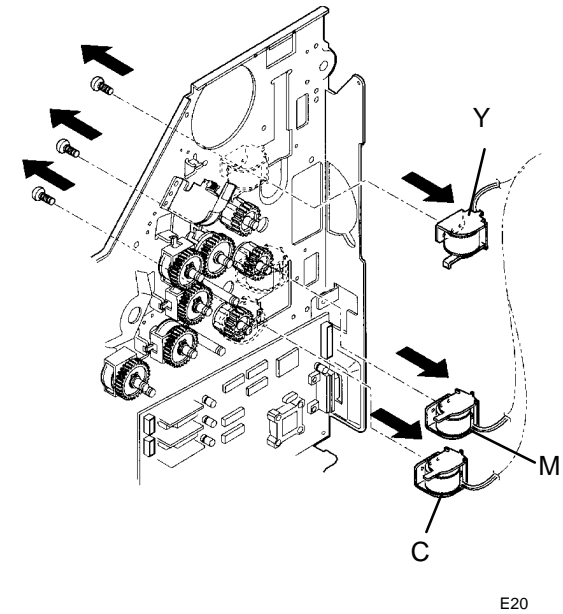

Figure 5. Removing the Toner Solenoid
6. (Figure 5): Remove the appropriate Toner Solenoid.